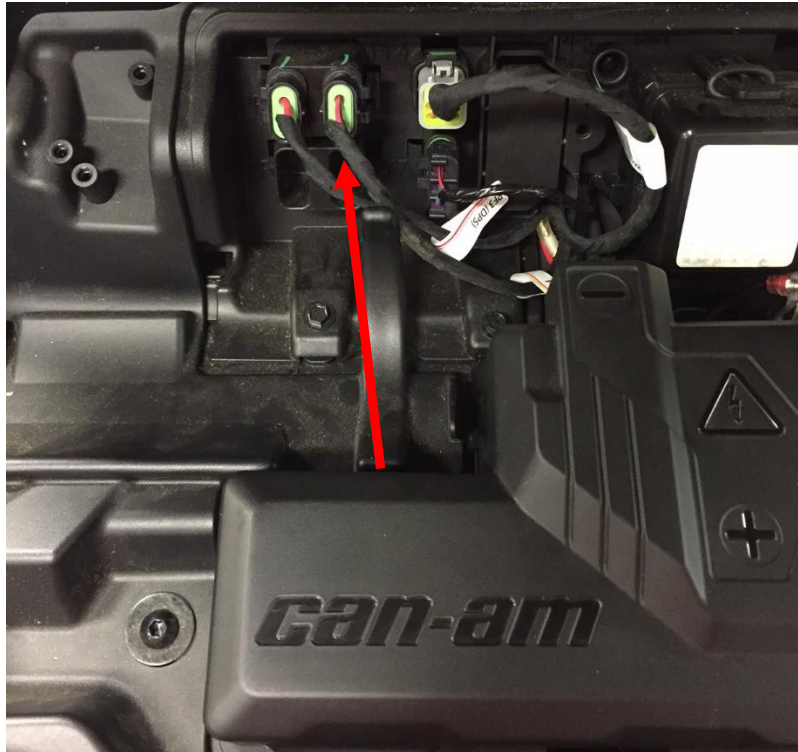

Figure 27: Accessory port connection.
24. Unplug the factory fuse holder in port PF4. See Figure 27.